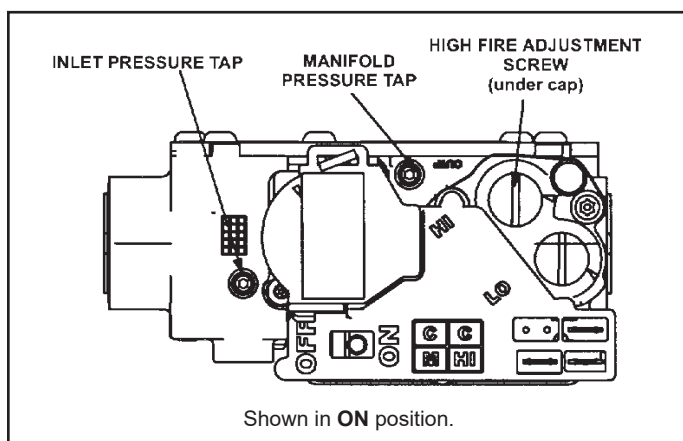
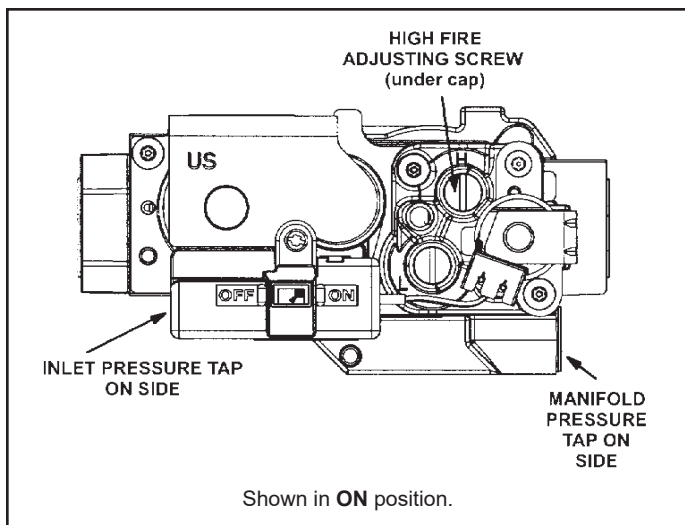

Figure 19. White Rodgers Gas Valve
Figure 20. Honeywell Gas Valve
See Figure 19 and Figure 20
6. Move gas valve switch to OFF position. Do not force. See Figure 19 and Figure 20.
7. Wait five (5) minutes to clear out any gas. If you then smell gas, **STOP!** Immediately call your gas supplier from a neighbor's phone. Follow the gas supplier's instructions. If you do not smell gas go to next step.
8. Move gas valve switch to ON position. Do not force. See Figure 19 and Figure 20.
4. Move gas valve switch to OFF position. Do not force. See Figure 19 and Figure 20.
1. Connect test gauge to manifold pressure tap (Figure 19 and Figure 20) on gas valve.
4. If necessary, make adjustments. Figure 19 and Figure 20 show the location of high fire adjustment screw.